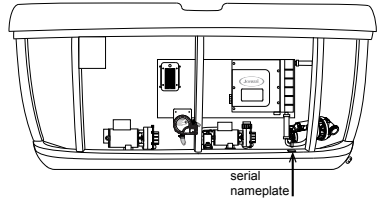
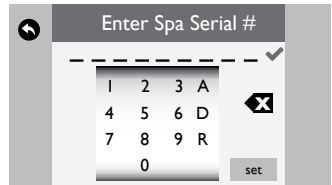

Figure 10.2b
Figure 10.2c
Registering your spa is important in order to validate your warranty, page 27. In order to register you will need to have the spa serial number, Figure 10.2b, then you will need to register online in order to receive a passcode. The passcode must be entered on the control panel in order to unlock the Registration Lockout screen, Figure 10.2c.
2. Input the 9-digit serial number, Figure 10.2c. Use the letters A, D or R if your serial number begins with a letter.